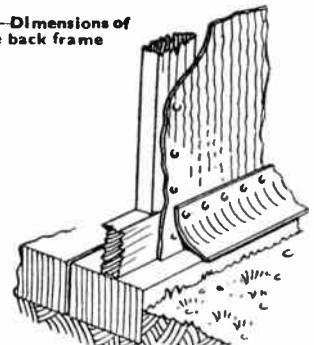

Fig. 8—The weatherproof skirting
To form a good weatherproof skirting to the sides of the house, strips of Ruberoid should be cut off and nailed with broad-head tacks as shown in Fig. 8 and allowed to just overhang the brick edge so as to throw the water clear. It would be a good plan to coat all the timbering with creosote or other wood preservative before the outside covering material is tacked on. (226)